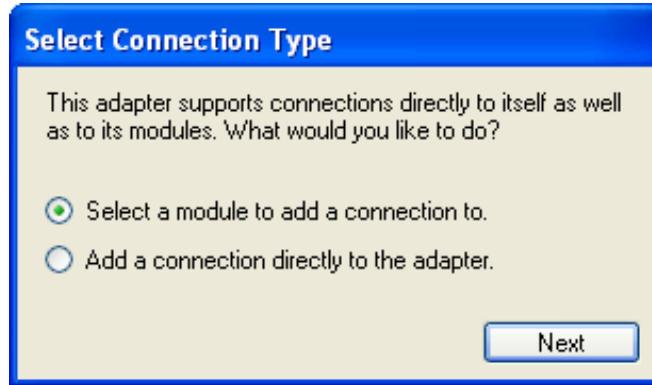

Figure 50: Select Connection Type
5. Add the POINT IO (1734-AENTR EtherNet/IP Adapter) to the scanner. Enter an IP address and click next. If the adapter supports direct connections to itself, select the first type of connection to be created (see Figure 50). Connections to the adapter can always be created at a later time. If the adapter does not support direct connections to itself or the user selects to add a connection to a module, the Module Properties box will be displayed (see Figure 51). All available modules for the POINT IO adapter will be listed.